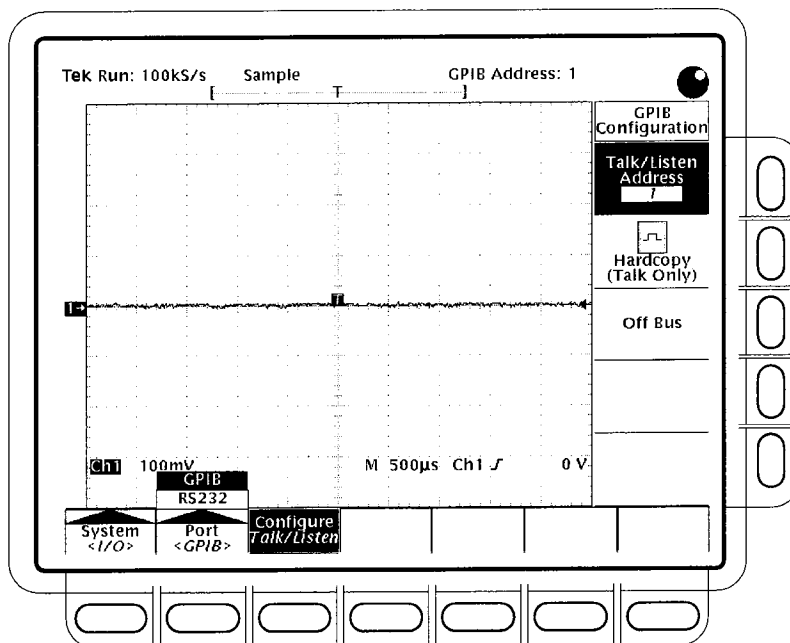

Figure 3: Selecting the GPIB Address in the GPIB Configuration Side Menu
3. Press the **Port** button in the main menu until it highlights the **GPIB** selection in the pop-up menu. See Figure 3.
4. Press the **Configure** button in the main menu to display the GPIB Configuration side menu. See Figure 3.